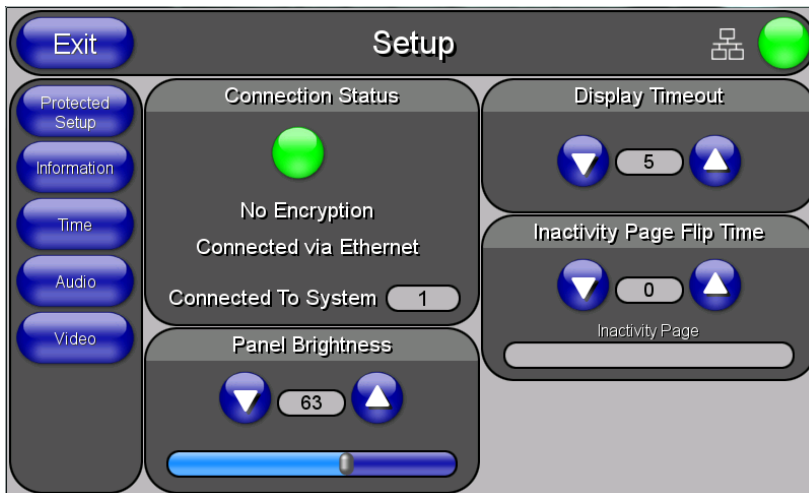

FIG. 53 Touch Panel Setup Page
1. Press and hold the Front Setup Access button (below the touch screen) for 3 seconds to access the Setup page (FIG. 53):